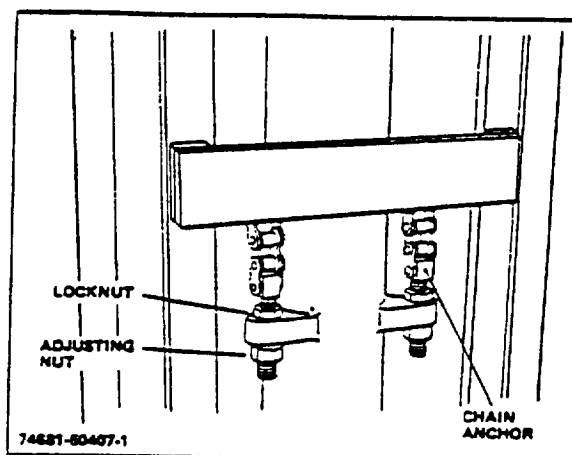

Figure 3-1. Chain Adjustment (On Cylinder)
To adjust the chain length, refer to Figure 3-1 for a general view of chain anchor and use the following outline:
2. Loosen the chain anchor locknuts (Fig 3-1).